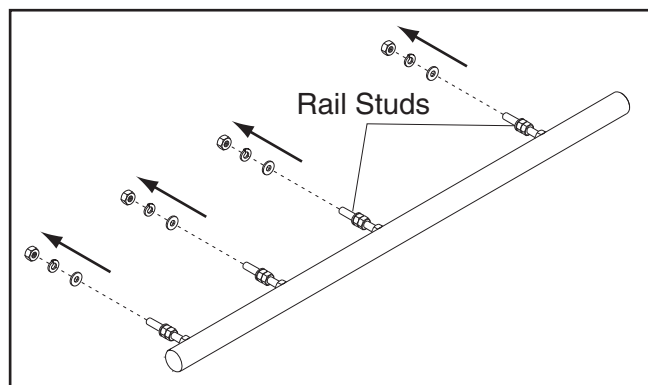

Figure 26. Removing rip fence rail hardware to prepare for installation.
16. The rip fence rail is pre-assembled with four rail studs and accompanying hardware. Remove (1) hex nut, (1) lock washer, and (1) flat washer from end of each stud, as shown in **Figure 26**.